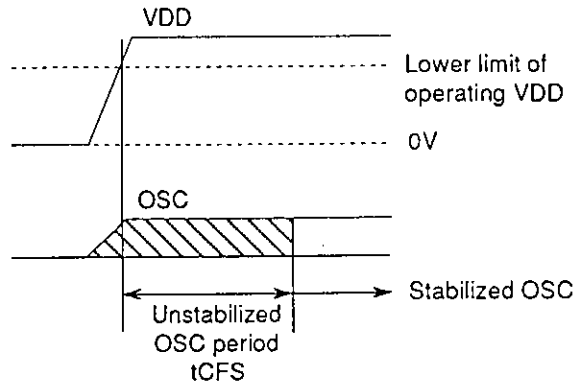

Fig. 4 Oscillation Stabilizing Period
- (*1) When oscillated internally under the oscillating conditions in Fig.4, up to the oscillation amplitude generated is allowable.